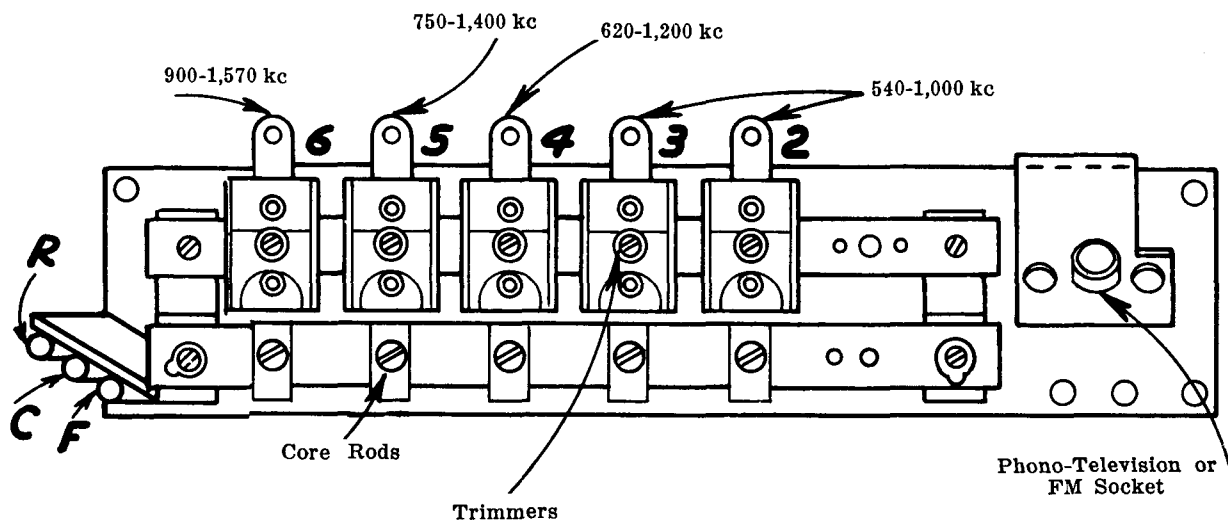

Fig. 4
- (1) Turn "Range selector" to "A" position and manually tune in the first station, say 560 k.c.
- (2) Turn "Range selector" to "P.B." position, press button No. 2 located second from left on front panel.
(3) Referring to Figure 4, adjust core and trimmer No. 2 for a peak at 560 k.c.
(4) Proceed to adjust the other four stations in order of frequency, as outlined above.